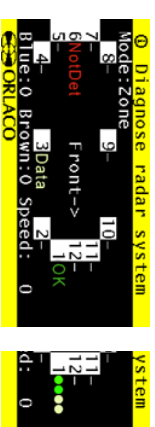

Figure 26
With the enter button (8) you can change mode to: **Zone, Type, Range and Distance** (see figure 26).